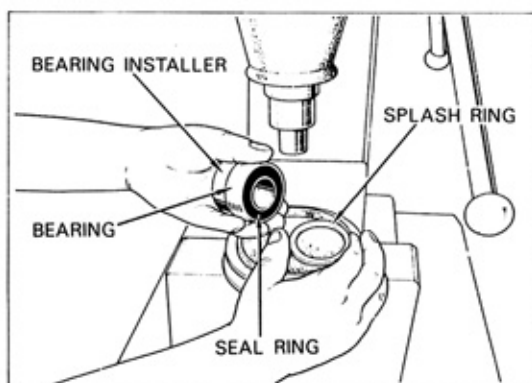

Fig. 71
**Note:** *When installing new bearing to clutch pulley bore, seal ring which is installed to bearing must view from outside as shown in Fig. 71.*